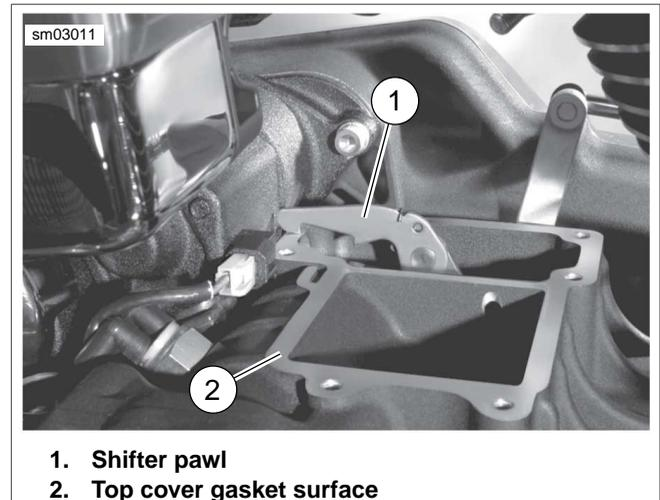

Figure 7-8. Set Shifter Pawl on Gasket
7. See Figure 7-8. Rotate the shifter pawl forward enough to raise the free end and place shifter cam pawl on top cover gasket.